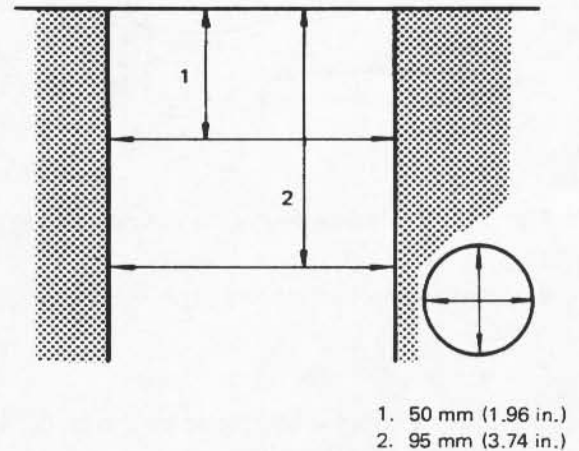

Fig. 3-5-28 Positions to be measured
- 2) Using a cylinder gauge, measure cylinder bore in thrust and axial directions at two positions as shown in Fig. 3-5-28. If any of the following conditions exists, rebores cylinder.
Cylinder bore diameters measured in thrust direction at two positions as shown in Fig. 3-5-28 should be used for calculation of piston clearance.